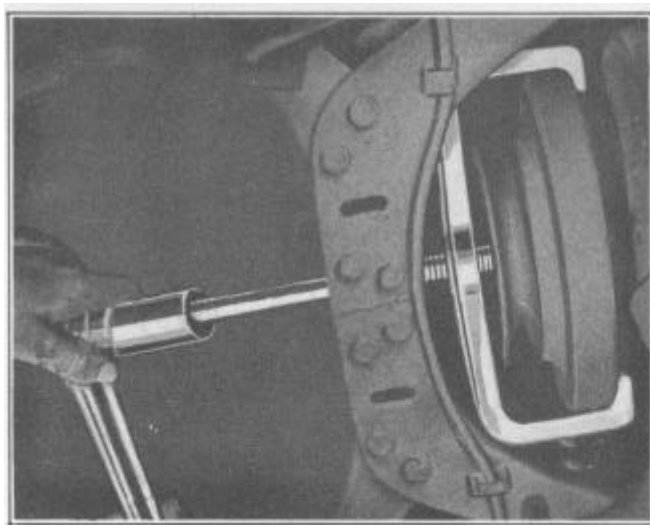

FIGURE 35
4. Remove vibration dampener lock screw, lock, and remove vibration dampener using Puller J-676-C, Figure 35.
4. Remove dampener screw, lock, and dampener. (Use Puller J-676C to remove dampener, Figure 35).